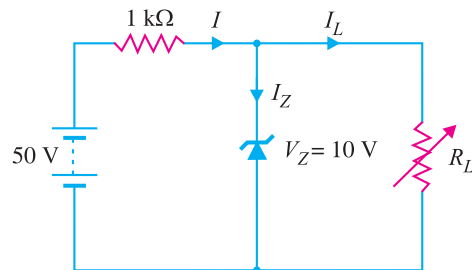

Fig. 6.80
15. In the circuit shown in Fig. 6.80, determine the range of  $R_L$  that will result in a constant voltage of 10 V across  $R_L$ . [250  $\Omega$  to 1.25 k $\Omega$ ]